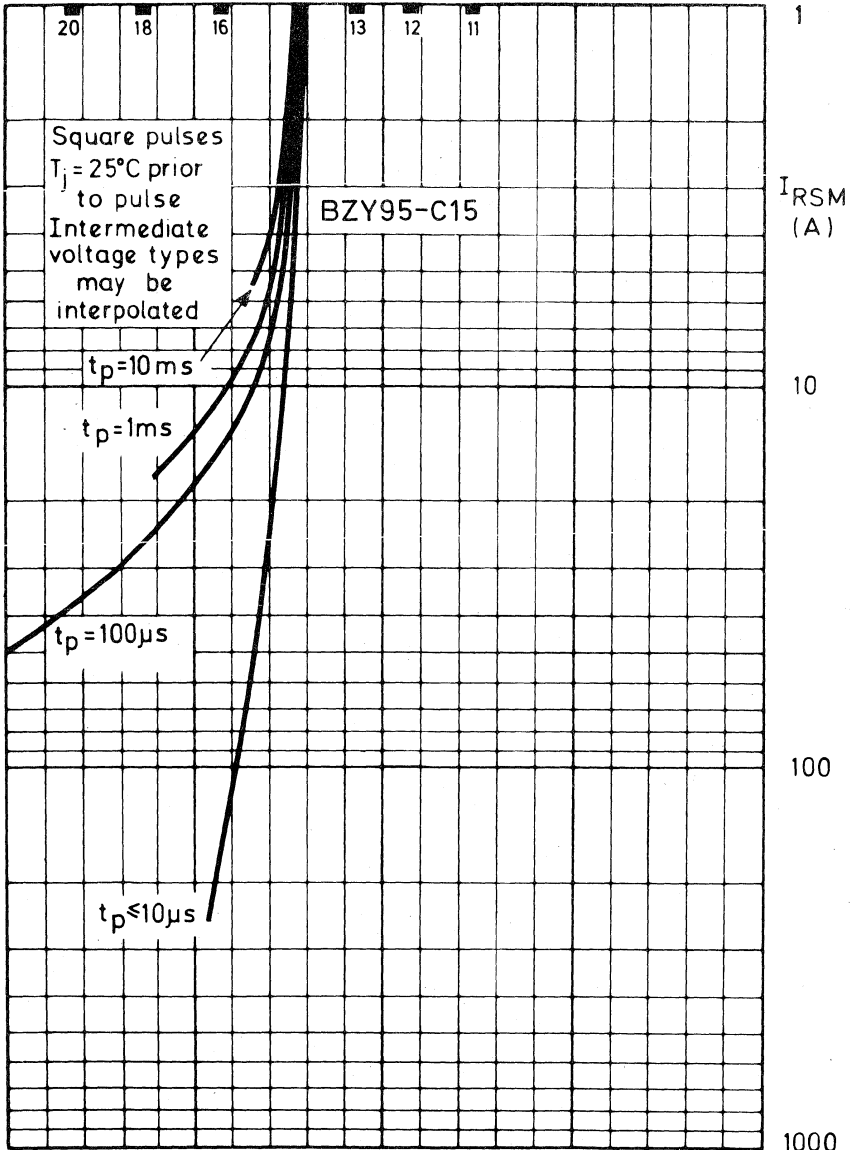

Fig. 14.
2. The maximum clamping voltage is the maximum reverse voltage which appears across the diode at the specified pulse duration and junction temperature. For square pulses see Figs 14 and 15, for exponential pulses see Figs 16 and 17.